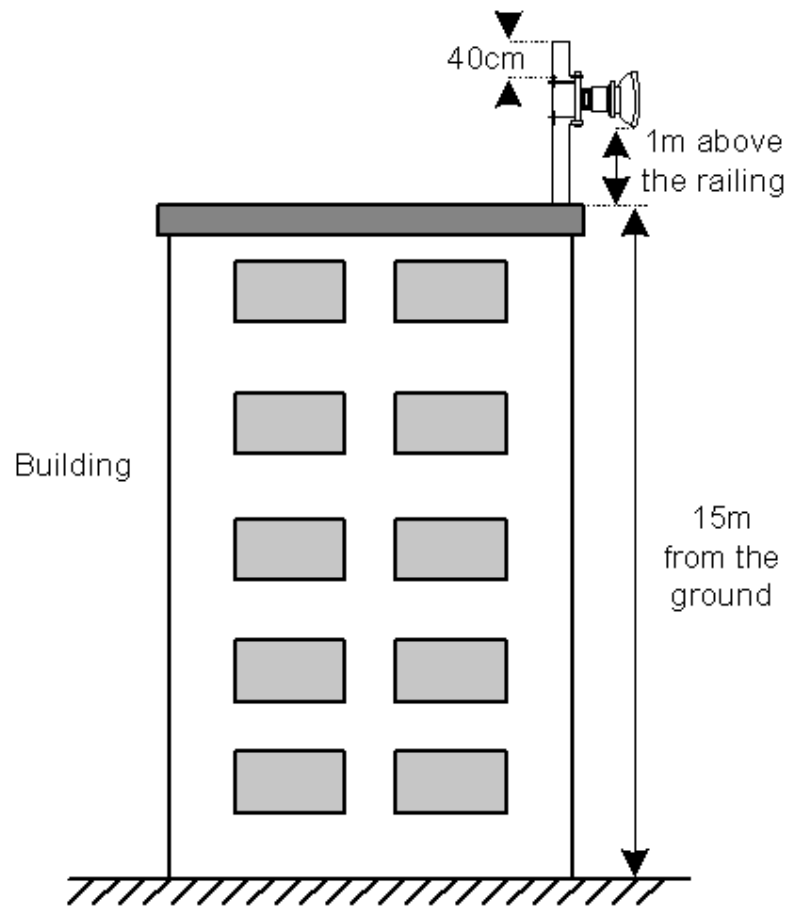

Figure 9-2: Installing the TS 28 GHz ODU on the Roof Corner
- Do not install the RFU at the top of the pole; always leave at least 40 cm space between the top of the pole and the RFU for better lightning protection (see Figure 9-2).